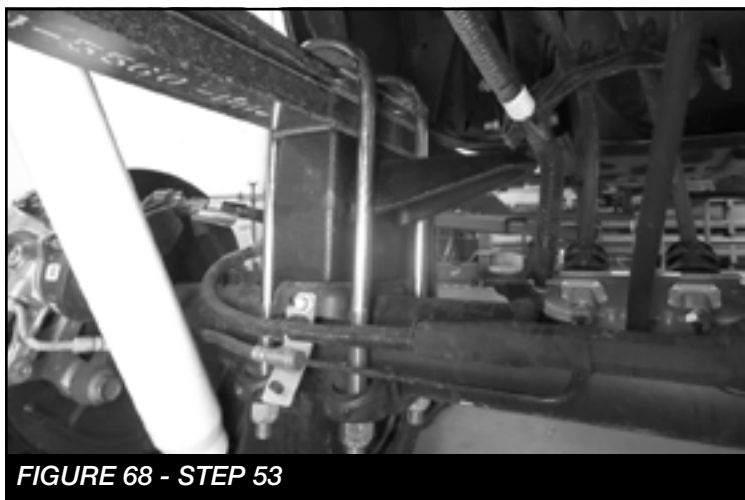

FIGURE 68 - STEP 53
57. Install the new rear lift blocks FTBK52. The extended bump stop perch will be facing inboard of the truck. Using the provided u-bolts, nuts and washers, align the axle, lift blocks, and springs and torque u-bolts to 90 ft-lbs. **SEE FIGURE 68**